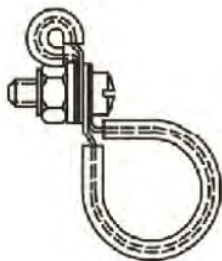

Figure 4
- (1) Put a fuel collection container under the fuel line at each fitting connection.
- (2) Make a sketch to identify clamps that attach to brackets for reference on assembly.
- (3) Remove and discard the P and L clamps (Figures 4 and 5) from the fuel line.
- (6) Make sure that the fuel lines are securely held in place, attached to the engine (to dampen vibration during flight) with the necessary serviceable cushioned clamps and hardware. Install clamps on the fuel line as per the following guidelines:
- Refer to Figures 4 and 5 which show how the fasteners are to be installed on P-clamps and L-shaped clamps.